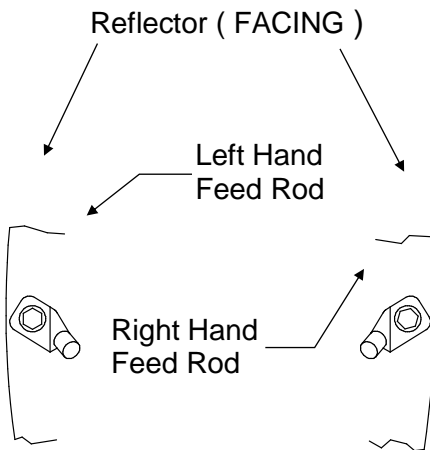

FIGURE 2
- A). Attach right and left feed rods to the reflector with (items 3, 6, 7) and with (2) of (item 5). See Figure 2 and Detail A.